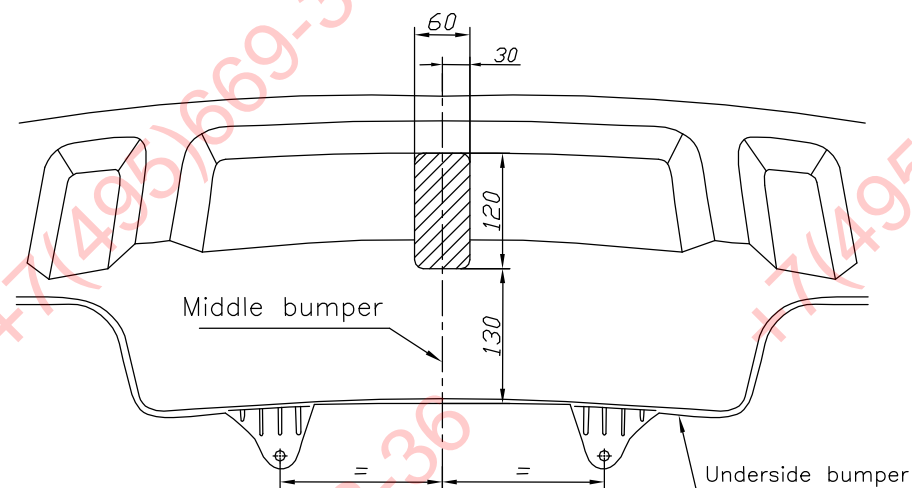

Figure 2. Bumper's cut
7. Reassemble rear bumper after cut out it's fragment according to figure 2.
8. Fix tow-ball (pos. 2) with socket plate (pos. 3) using bolts M12x75mm (pos. 5) and M12x70mm (pos. 6) from accessories.